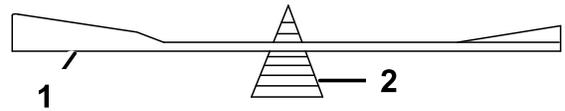

Figure 79
2. Check the balance of the blade by putting it on a blade balancer (Figure 79).
Note: If the blade is not balanced, file some metal off the end of the sail area only (Figure 79).